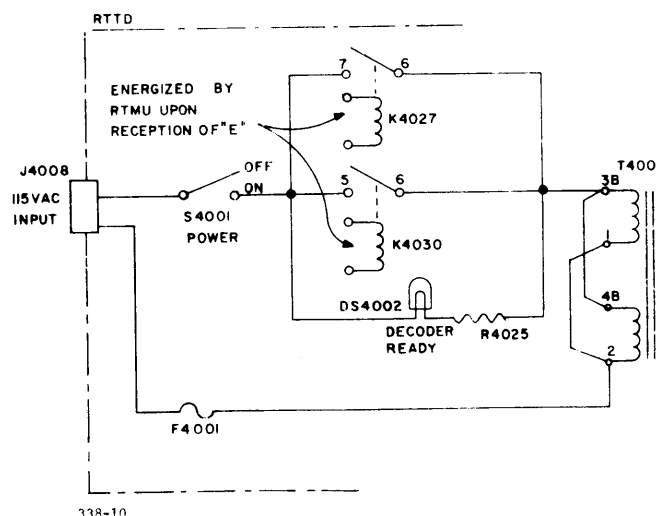

Figure 4-2. Simplified Schematic, Energization of RTTD by RTMU.
b. APPLICATION OF POWER. - The remote tuning feature of the DDDR is enabled by application of line voltage to Signal Data Converter-Storer RTMU and Receiver Decoder RTTD through their respective POWER switches. Line voltage to the RTMU immediately energizes the readback circuits; logic voltages are also supplied to the RTMU's memory circuits, preparing it for reception of the first code. When the POWER switch of the RTTD is set at ON (see figure 4-2), the line voltage lights the DECODER READY lamp. Full line voltage is not connected across the primary of power transformer T4001 in the RTTD until the circuit is completed through contacts of energized relay K4030 and power lock-up relay K4027. These relays only energize when the RTMU receives the E (10000) code at the end of a tuning message.